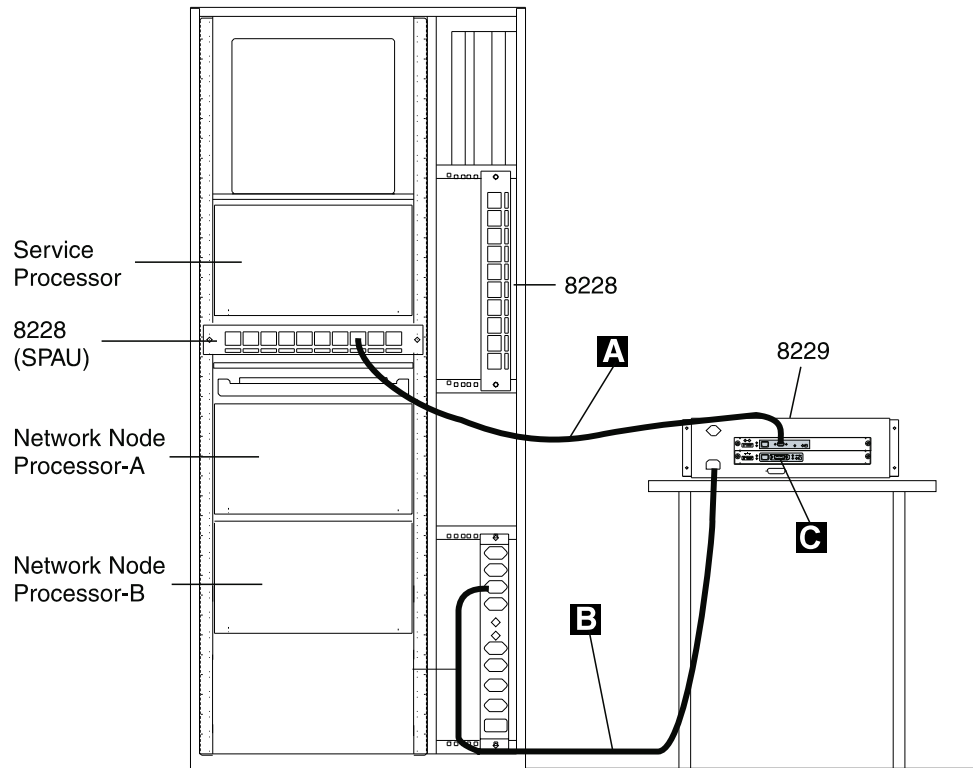

Figure 2-11. Connecting the Ethernet Bridge to the Service Processor
- a. ____ Refer to Figure 2-11 and install the Ethernet Bridge on a table close to the controller expansion
- a. ____ Refer to Figure 2-11 on page 2-11, and disconnect the power cord **B** first from the Ethernet Bridge and then from the ac outlet distribution box.